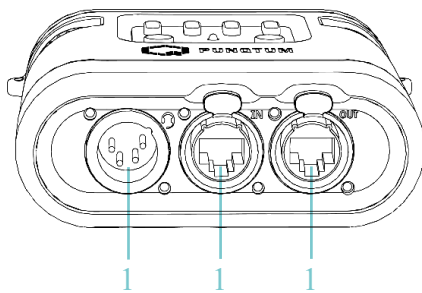

Figure 2
Channel volume control can be set by the rotary encoder knobs (11 on Figure 2) on the side of the Beltpack. Moving the rotary knob clockwise will increase the volume, counter-clockwise operation will decrease the volume.
5.1.3 TALK active indication (C)
An active TALK function is indicated in the display per Channel. Use the TALK Buttons (item 2 on Figure 2) to switch on and off the TALK status of each Channel.